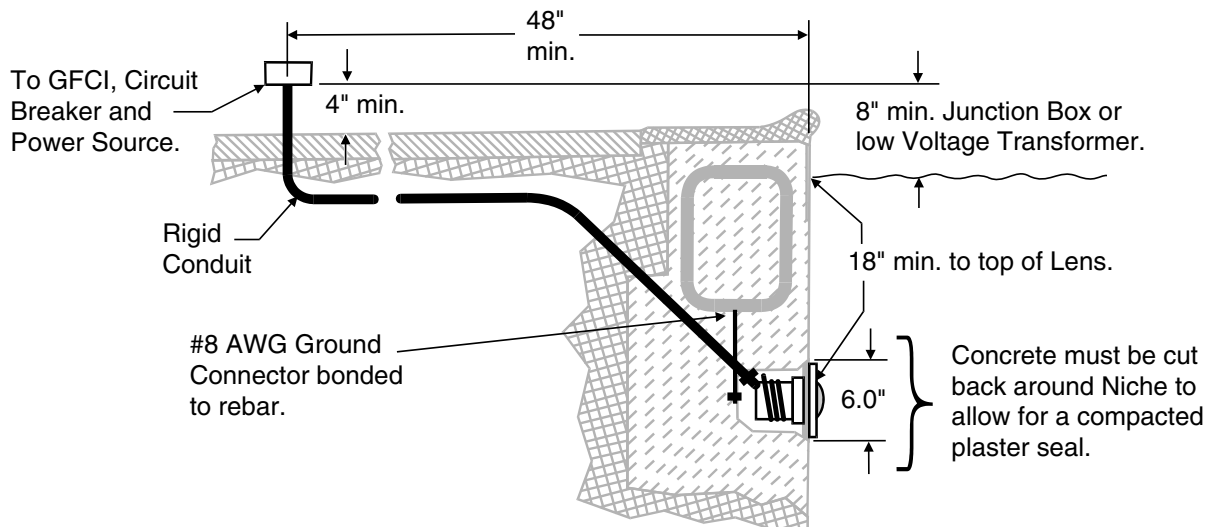

Figure 1
**BEFORE STARTING:** The following steps (1-6) describe the tasks that must be completed by the electrician before the IntelliBrite light fixture is installed. See Figure 1 diagram.
- The Junction Box (or, for 12 volt models, the low voltage transformer) is located at least 8 inches above the maximum water level of the pool and at least 48 inches from the edge of the pool; see Figure 1.
- The wet niche is properly installed so that the top edge of the underwater light's lens is at least 18 inches below the surface of the water in the pool/spa; see Figure 1. (Not more than 20" depth in Canada.)
- The wet niche is properly electrically bonded and grounded via the No. 8 AWG ground connector located at the rear of the niche; see Figure 1.
1. Feed cord through conduit to Junction Box, leaving at least four (4) feet of cord at the light fixture to coil around the light; see Figure 1. The four (4) feet of cord around the light allows the light to be serviced after the spa is filled with water.
- The Junction Box (or, for 12 volt models, the low voltage transformer) is located at least 8 inches above ground level and at least 48 inches from the edge of the spa; see Figure 1.
- The wet niche is properly installed so that the top edge of the underwater light's lens is at least 18 inches below the surface of the water in the spa; see Figure 1.
5. Leave at least four (4) feet of cord to coil around the light fixture; see Figure 1 on page 2. This four (4) feet of cord coiled around the light allows the light to be serviced after the spa is filled with water.
6. Cut the cord at the Junction Box, leaving at least size (6) inches of cord to make connections.
7. Strip six (6) inches of the outer cord jacket from the cord to expose the three (3) insulated wires – be careful not to damage the insulation on the three inner wires.
8. Connect all three (3) wires to the corresponding circuit wires in the Junction Box (black wire to power, white wire to common, and green wire to ground) and secure the Junction Box cover in place.
**⚠ WARNING** - Never operate this underwater light for more than ten (10) seconds unless it is totally submerged in water. Without total submersion, the light assembly will get extremely hot, which may result in serious burns or in breakage of the lens. This may result in serious injury to pool and spa users, installers, or bystanders, or in damage to property.
- Aligning the lens position with the LEDs:** While looking through the front of the lens, slightly rotate the lens until the vertical lines on the lens are in focus with the four (5) rows of LEDs below.
12. **Install the IntelliBrite light assembly into the niche:** Feed cord through conduit to Junction Box, leaving at least four (4) feet of cord at the light fixture to coil around the light; see Figure 1 (page 3). The four (4) feet of cord around the light allows the light to be serviced after the spa is filled with water.
13. Cut the cord at the Junction Box, leaving at least six (6) inches of cord to make connections.
14. Strip six (6) inches of the outer cord jacket to expose the three insulated wires (be careful not to damage the insulation on the three inner wires).
15. Connect all three (3) wires to the corresponding circuit wires in the Junction Box and secure the Junction Box cover in place.